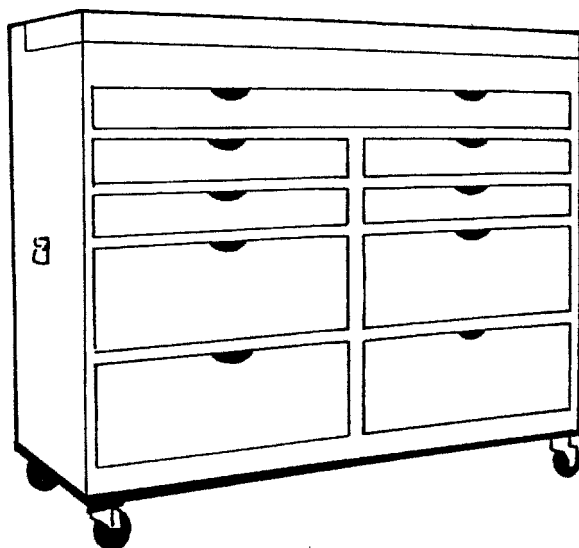

Figure 2.34 Grip/electrical stage box.
1. The grip/electrical stage box or grip box, as it is usually called, is nothing more than an extra-heavy-duty chest of drawers (Figure 2.34).